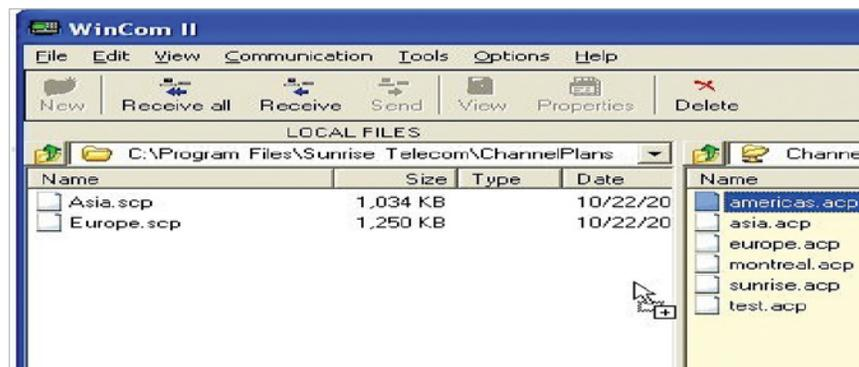

Figure 9-6: Dragging a Record from a Remote AT2500 to the Computer
4. Select a record from the right pane, and then drag it to the left pane, or click Receive in the toolbar. You can also select Copy from the Edit menu. This step may be repeated for each record or for multiple records transfer. See Figure 9-6.